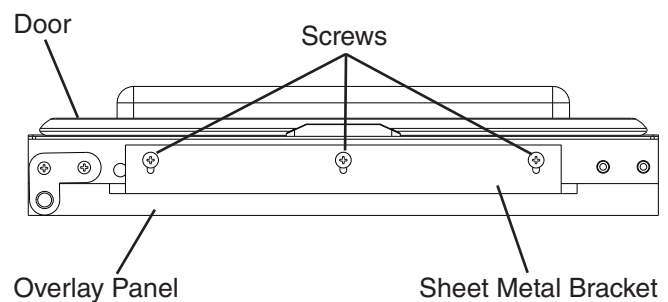

**Fig. 23**
- 4) Remove the overlay panel from the door and tighten the two M4x8 truss head screws securing the sheet metal bracket to the overlay panel. See Fig. 23.